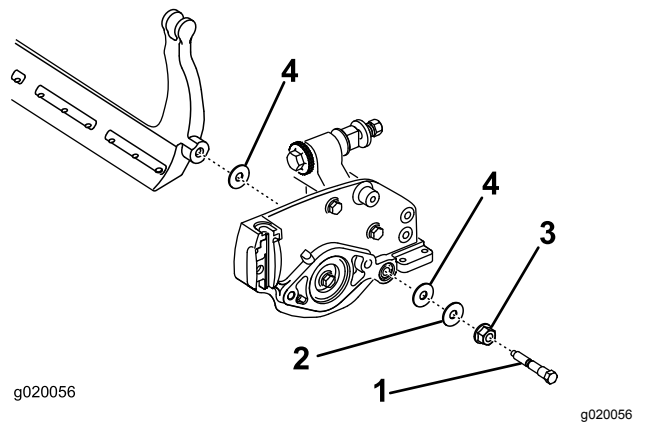

Figure 23
Account for the 2 nylon washers and 1 steel washer on each end of the bedbar (Figure 23).
3. Position a nylon washer on each side of the side-plate boss. Place a steel washer outside each of the nylon washers (Figure 23).